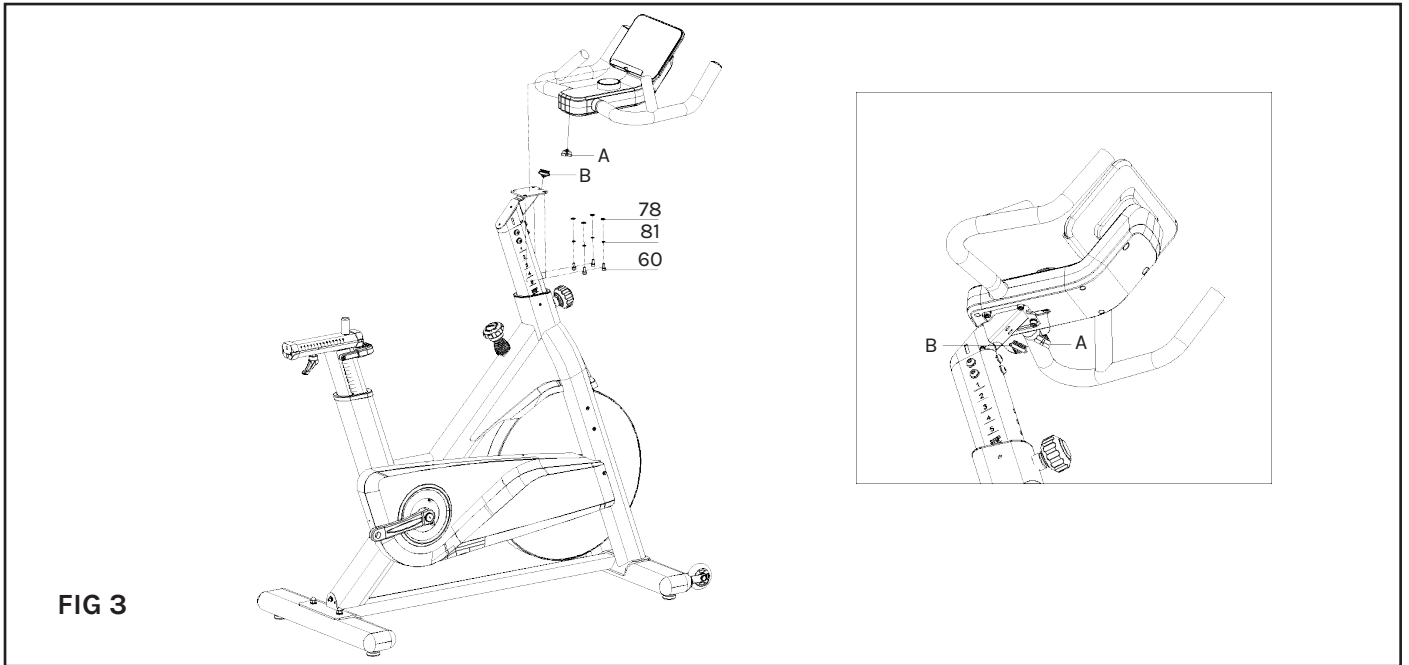

FIG 3
A. Use tool 5# Hexagonal wrench (pt.47) to secure Flat Washer 6 (pt.78) 4PCS, Elastic washer 6 (pt.81) 4PCS, and Hex socket head screw M6*12 (pt.60) 4PCS to connect the Handlebar (pt.3) to the Handlebar connection assembly (pt.07), as shown in FIG.3.
While in the READY state, press the knob or commence pedaling to access the exercise mode. The small window will display "LEVEL" every 3 seconds (as depicted in Figure 3).